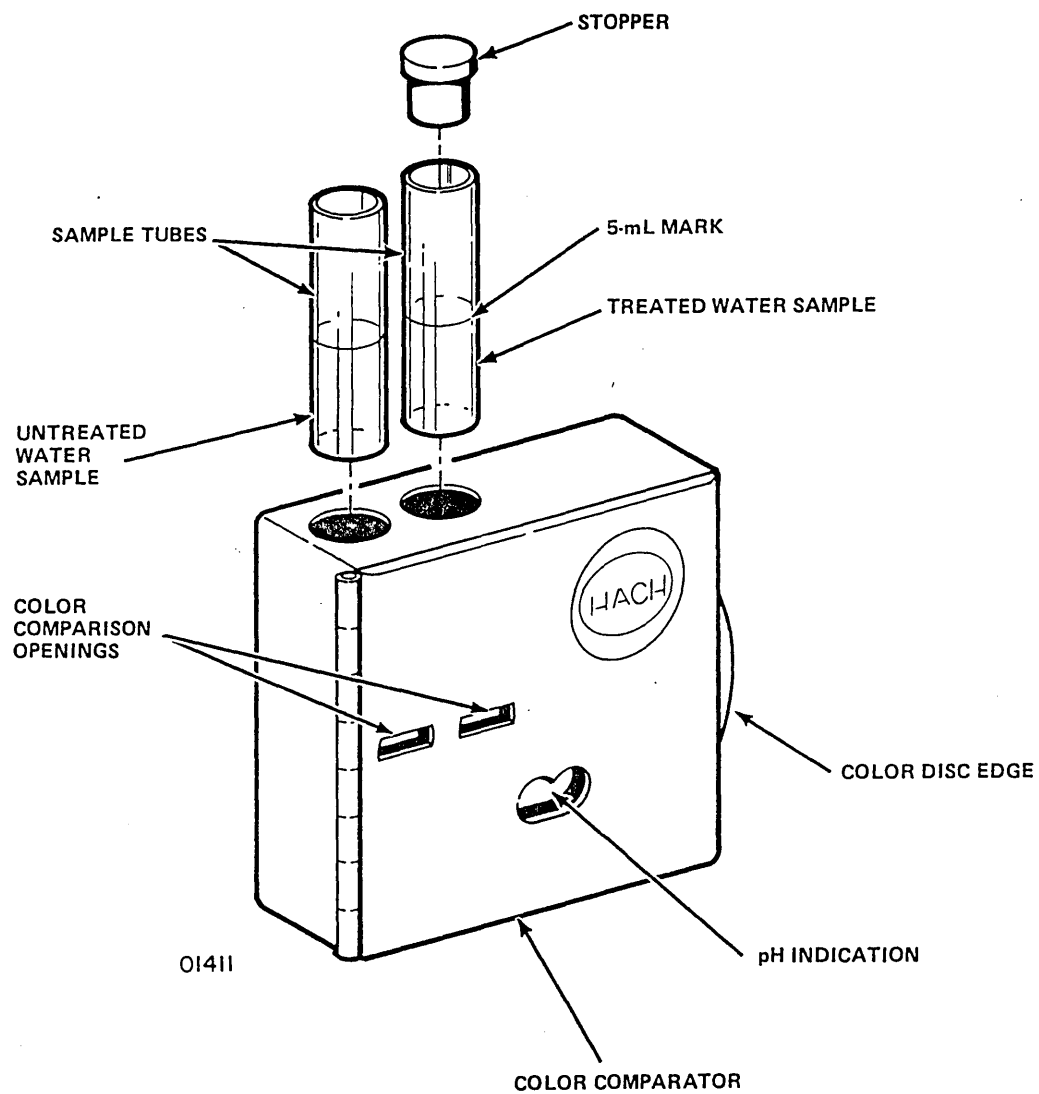

Figure 3-23. Water Treatment pH Indicator Kit
- ___ 7. Check alkalinity of water in water cooling unit, using water treatment pH indicator kit (figure 3-23) as follows: